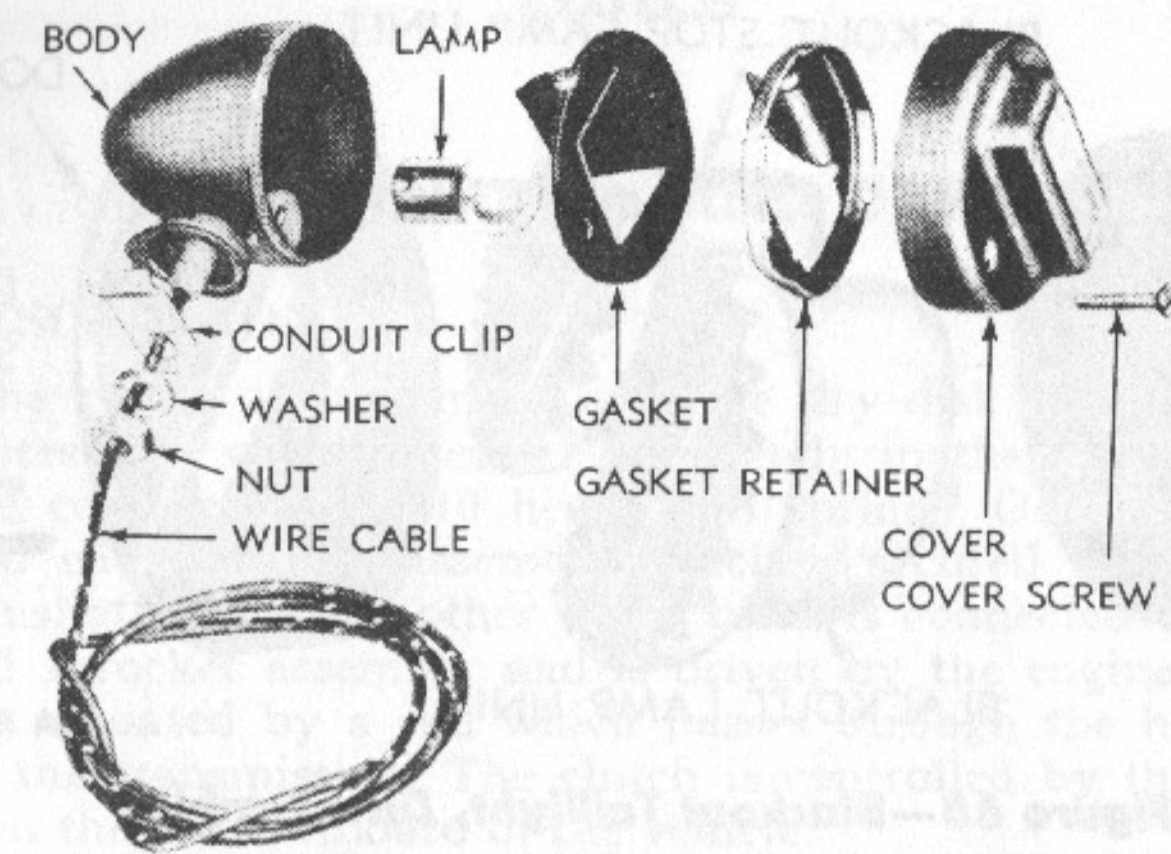

Figure 86—Front Marker Light, Disassembled
a. The front marker light mounts on the front mudguard. Use a single contact lamp (3 cp, 6-8 V, single contact). Replace light body and parts found in damaged condition. For correct order of assembly see figure 86.